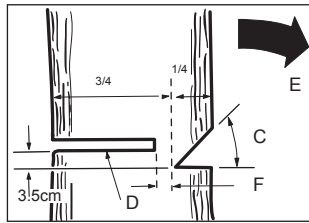

FIG. 1
Usually, felling a tree consists of two main cuts, the face cut (C Fig. 1) and the undercut (D. Fig. 1), which is needed to fell the tree.
- Begin with the face cut (C) on the side of the tree facing the direction of the fall (E).
- The cut must be as deep as about $\frac{1}{4}$ of the trunk diameter (F).
- After this operation, make the cut (D) on the other side of the tree at about 3-5 cm above the height of the face cut (Fig. 1).